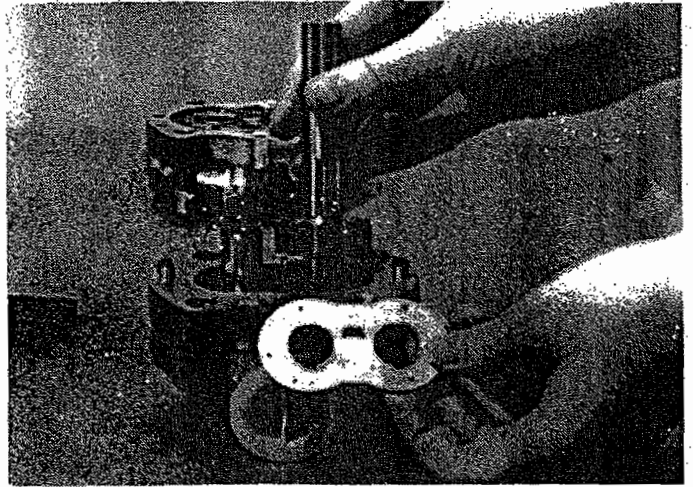

Fig. 7
8. Remove front thrust plate (Item 9), drive gear (Item 8), and idler gear (Item 7). (Fig. 7)